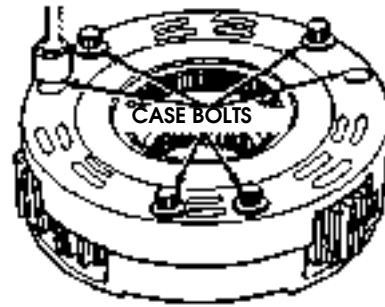

Figure 5-111: Differential Case Bolt Removal
- b. Remove case bolts (Figure 5-111).